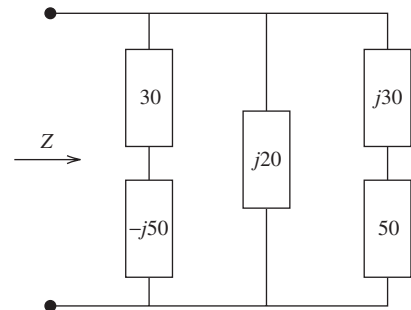

FIGURE P6.26 Circuit for Problem 6.26.
- 6.26** (A) Find Z in Figure P6.26.